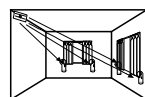

Fig. 5
- **Corner Mounted** (choose corner opposite glass to be protected see fig. 5)